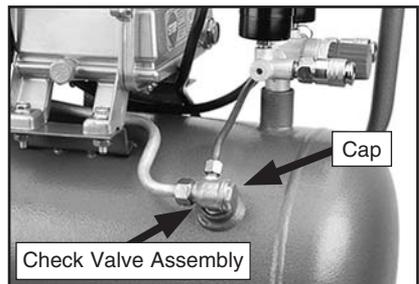

Figure 19. Check valve assembly.
2. Using a 19mm wrench remove the cap shown in **Figure 19** from the check valve.